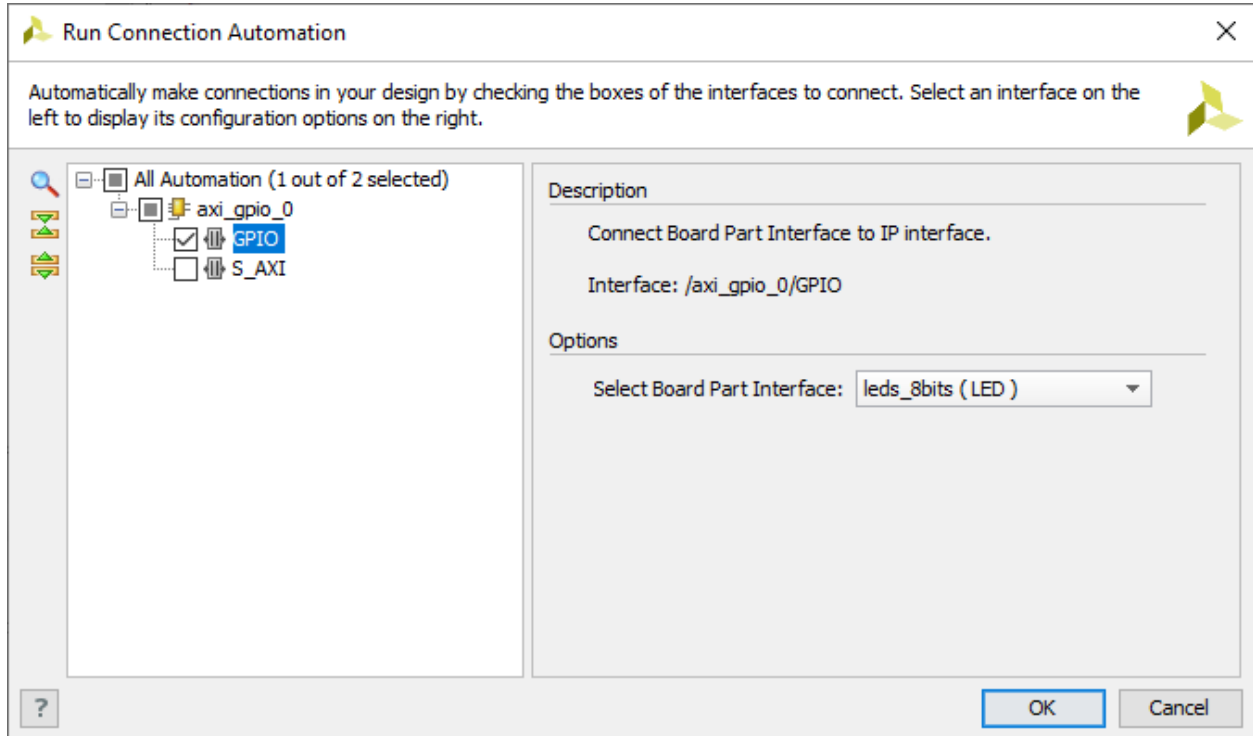

Figure 14: Select Board Interface options.
4. Select **Run Connection Automation** again. Under **axi_gpio_#**, select the check-box beside **GPIO**. Under **Select Board Interface**, select **leds_8bits**, as in Figure 14.